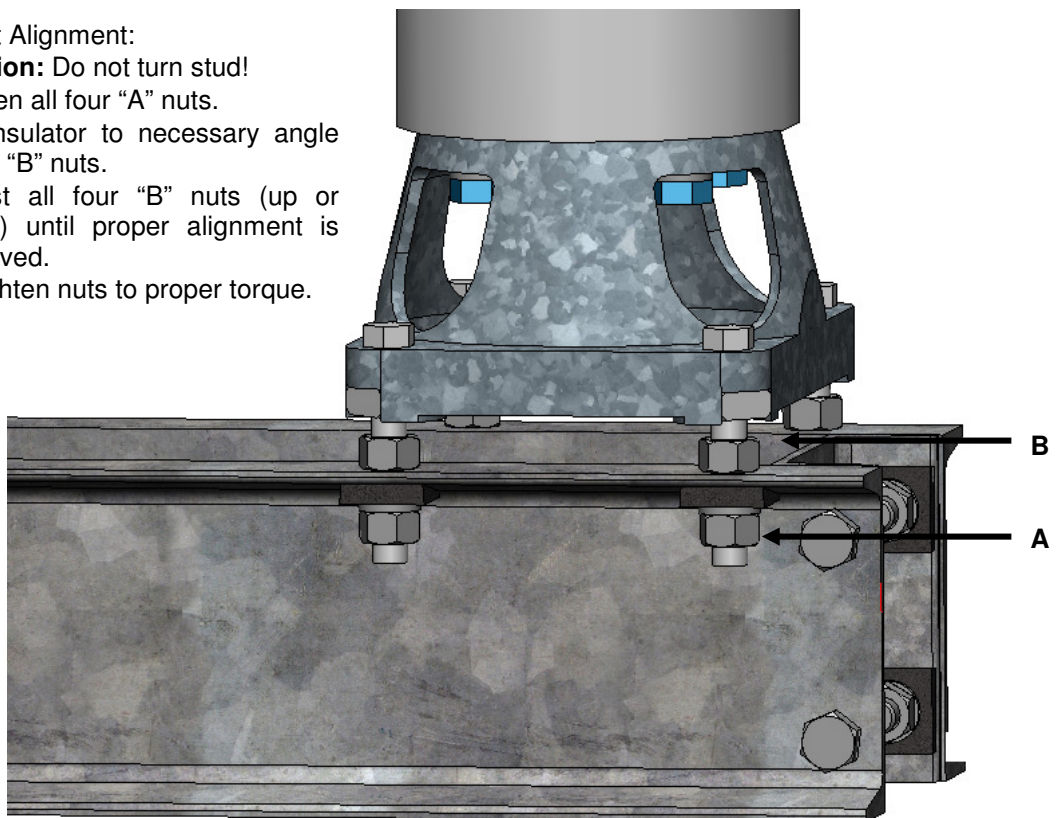
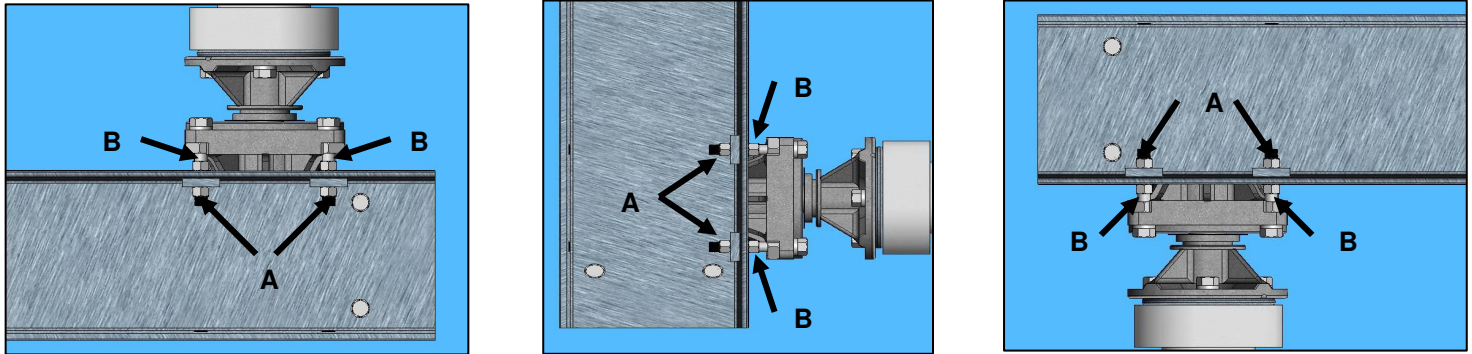

Figure 3: Insulator Stack Alignment
Figure 11: Insulator Stack Adjustment for Various Mounting Positions
- 1.6. Confirm proper insulator alignment. The rotating insulator must be as near to perpendicular as possible to both the long and short axis of the disconnect switch base. **NOTE:** The original insulator stack height must be maintained. When the nuts on the jack bolts are used to adjust insulator tilt, opposite nuts must be turned equally (run one nut up a certain number of turns, turn the opposite nut down the same number of turns). Refer to **Figure 3**.
- 2.1.4. To obtain the proper gap, adjust the jack bolts using the procedure in **Figure 3**.
- 3.10.1. Refer to **Figure 3** and **Figure 11**. Adjust both "A" nuts and "B" nuts equally to correct any misalignment.